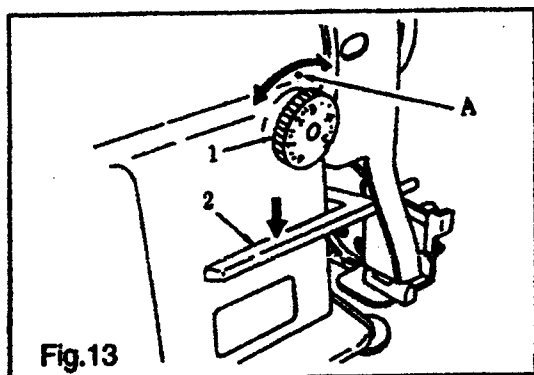

Fig.13
7. ADJUSTING THE STITCH LENGTH (Fig.13)